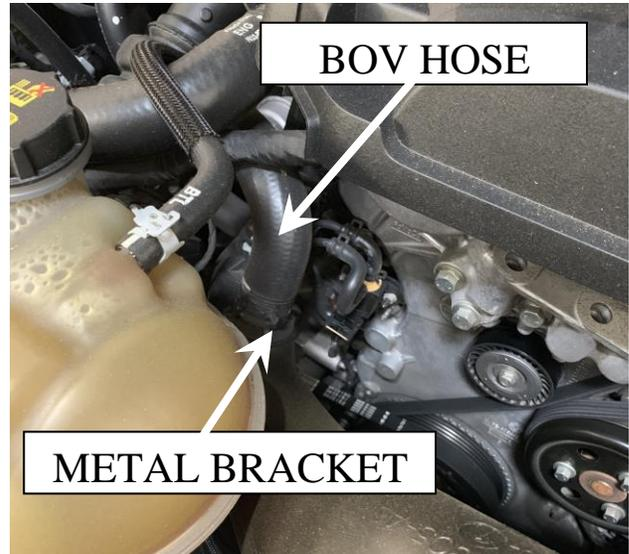

Fig. 3
5. Locate BOV recirculating hose next to the coolant reservoir. See Fig. 3 Using pliers squeeze the metal clamp and slide back from the end of the hose. Proceed to disconnect hose from intake tube.